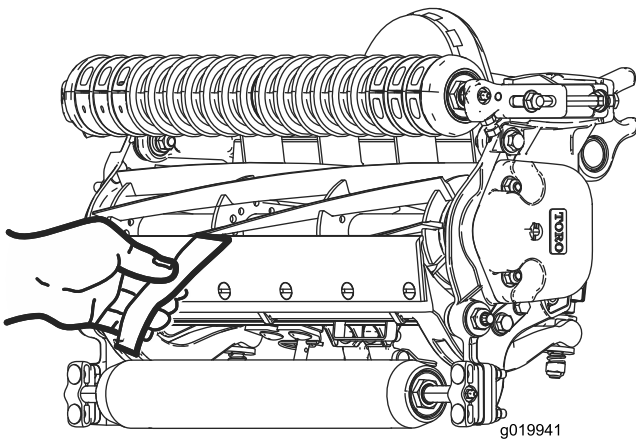

Figure 10
10. Test the cutting performance by inserting a long strip of cutting performance paper (Toro part number 125-5610) between reel and bedknife, perpendicular to the bedknife (Figure 10). **Slowly** rotate the reel forward; it should cut the paper.